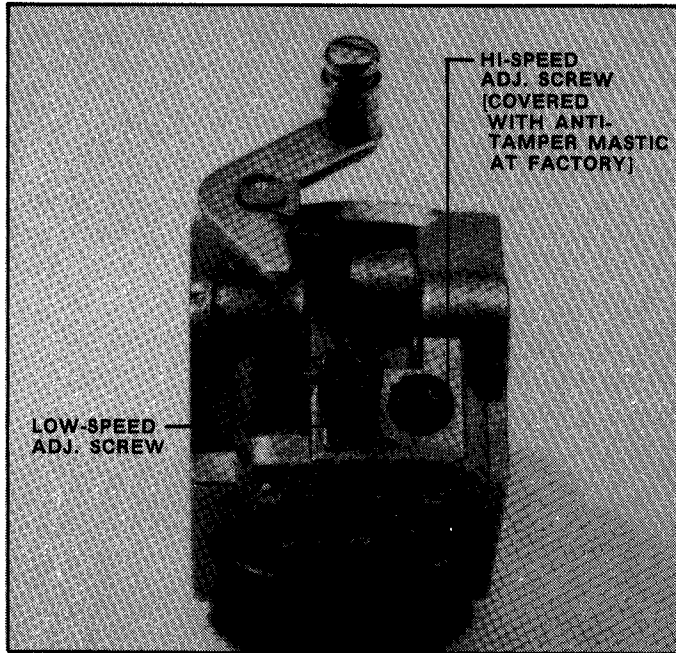

FIGURE 2.6
2.3 On the top left side of the carburetor body are located the low speed and high speed adjustment screws. These are marked on the carburetor body as "L" and "H". The high speed screw is covered with silicon patch at the factory. Remove the silicon and then remove the two screws with their springs. Notice for re-assembly the long screw and long spring are for the low speed adjustment side. See Figure 2.6.